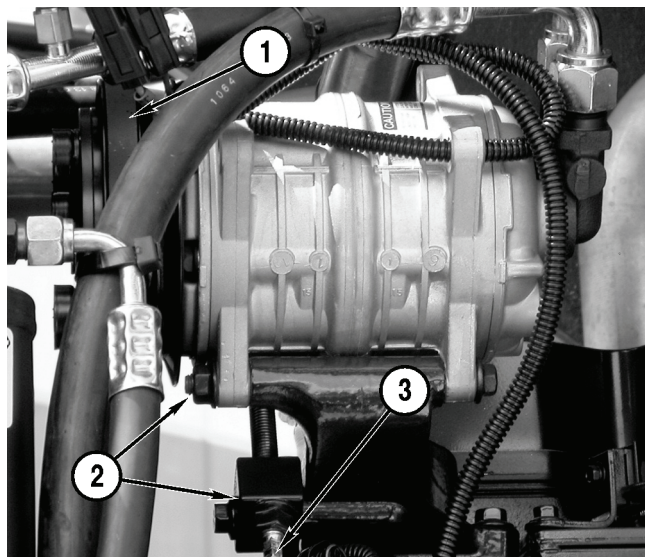

Figure 5-19
Check the A/C compressor belt (**Figure 5-19, 1**) for wear and damage. Replace as necessary.
1. Loosen the mounting and adjusting hardware (**Figure 5-19, 2**).
2. Turn the adjustment screw (**Figure 5-19, 3**) until the belt can be removed.